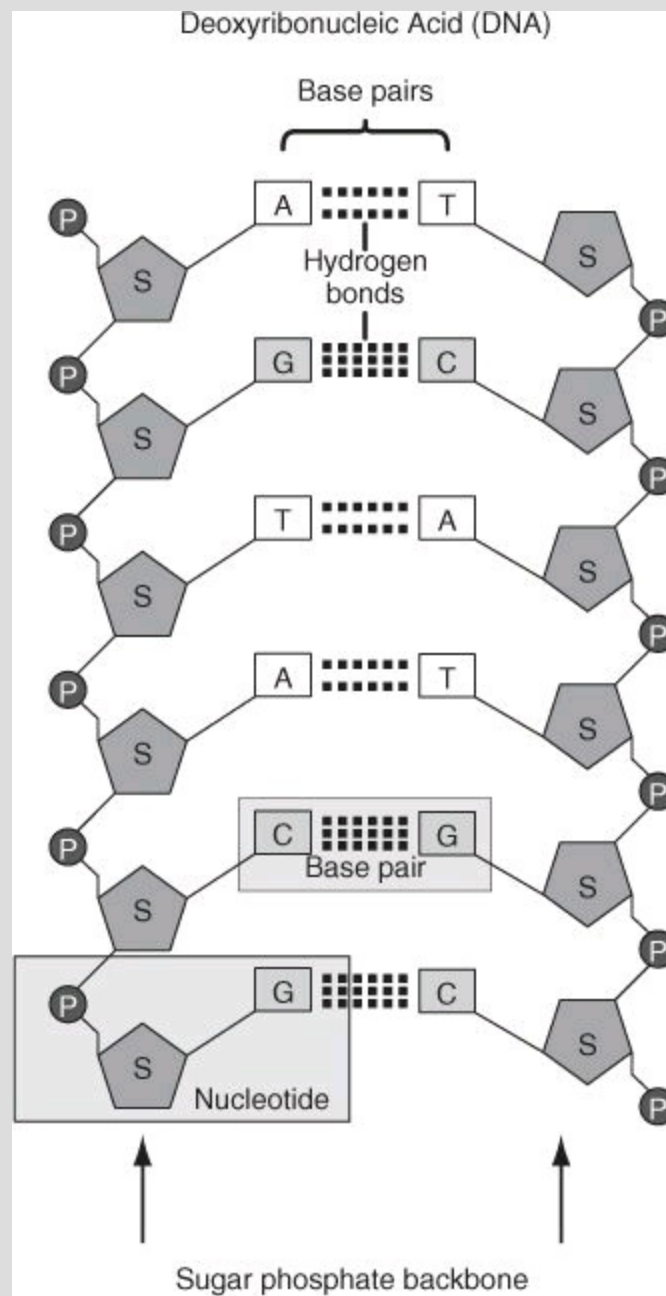
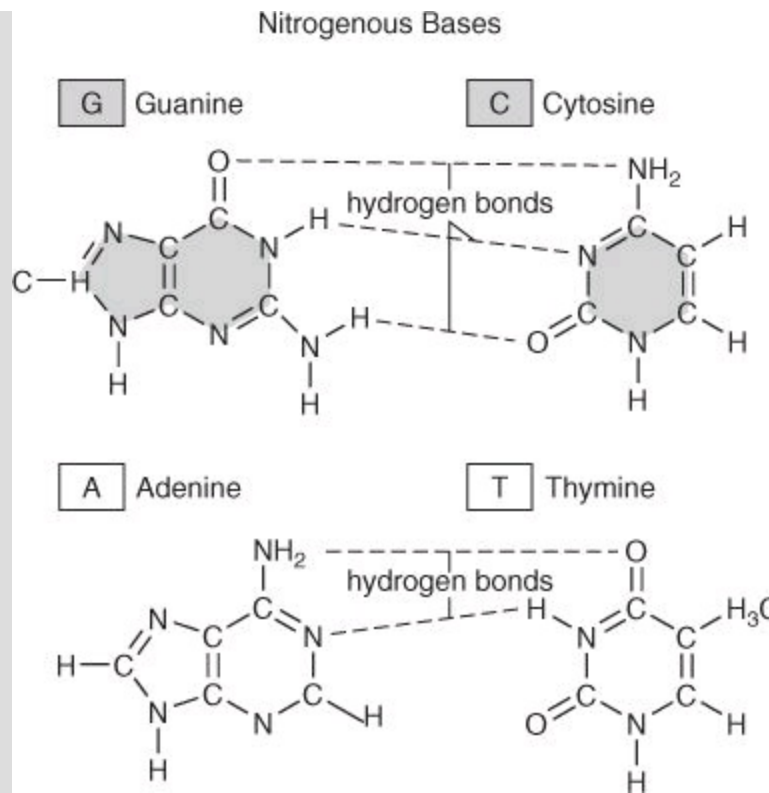

Figure E2.8a. A two-dimensional representation of a section of DNA that is shown in Figure E2.8c in three dimensions
Figure E2.8b. A two-dimensional representation of the chemical compounds of the respective bases G, C, A, and T
Nearly all living things contain DNA (which stands for deoxyribonucleic acid), namely, the molecule that stores **genetic information**. DNA consists of a series of nucleotides (look at Figure E2.8a). Each nucleotide is denoted by the base it contains, abbreviated as follows: A (for adenine), C (for cytosine), G (for guanine), or T (for thymine). Figure E2.8b shows in two dimensions the composition of each base. The most famous form of DNA in a cell is composed of two very long backbones of sugar (S) phosphate (P) molecules forming two intertwined chains
The length of a segment of DNA is measured in the number of base pairs (as indicated in Figures E2.8b and E2.8c); 1 kb is 1000 base pairs (bp), and 3 kb = 1 μm . The sugar phosphate backbone is connected by successive combinations of A, T, G, and C.